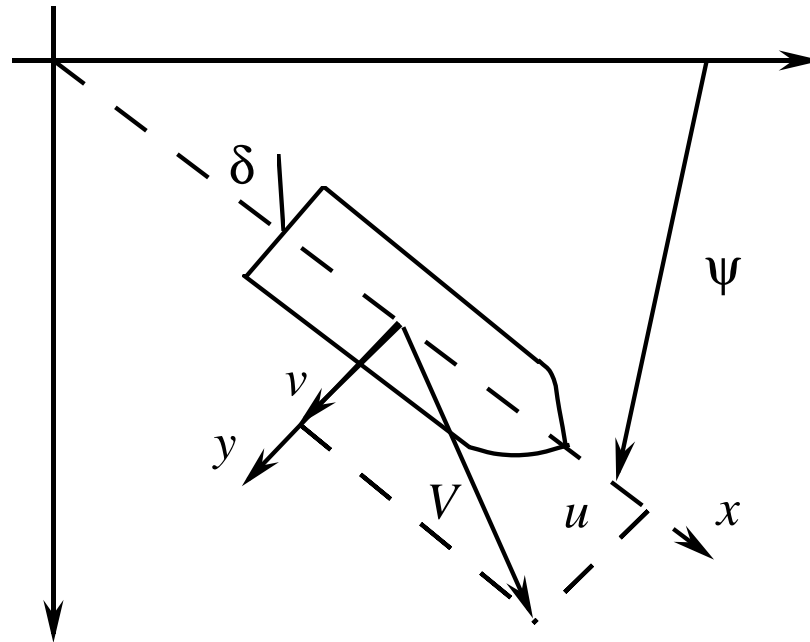

Figure 3: Tanker ship steering problem.
- Consider the tanker ship steering application in Figure 3